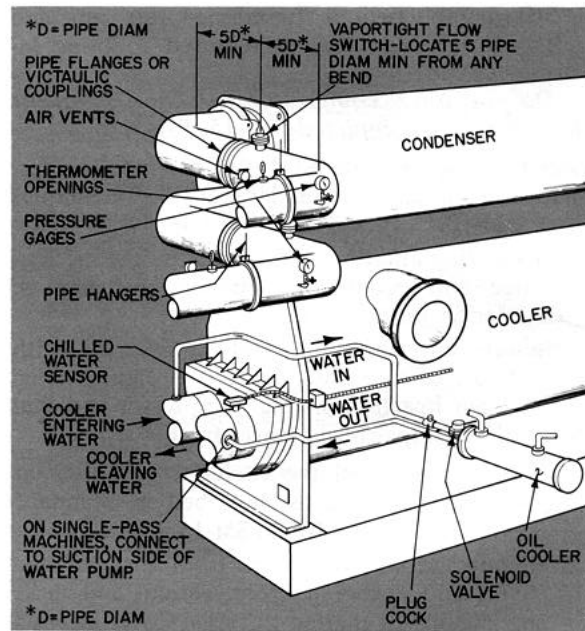

Fig. 7 — Typical Nozzle Piping
Protect items such as gaskets, threaded joints, switches and other machine parts from weld heat damage. *Remove chilled water sensor (Fig. 7) when welding water box nozzle.*
6. Install water flow switches at top of pipe on horizontal run. Locate at least 5 pipe diameters from bends (Fig. 7).
If machine chilled water is used for oil cooling, it should enter the oil cooler from the entering water of the machine cooler. Water leaving the oil cooler should be piped to the leaving water of the machine cooler (Fig. 7). The connection point must be downstream from the chilled water sensor so that oil cooler water will not affect the temperature readings of the sensor.